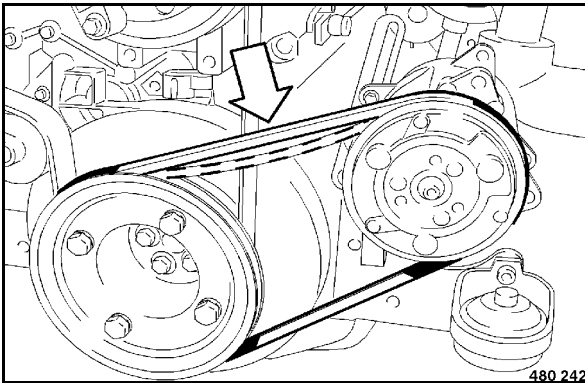

Fig. 136
- Inspect the entire circumference of the V-belt (Fig. 136) visually for damage and cracks. Replace damaged or cracked V-belts.